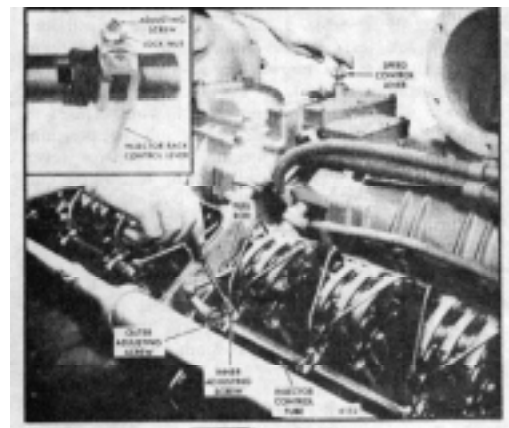

Fig. 12. Positioning No. 4L Injector Rack Control Lever
assemblies which have a yield spring at each injector rack control lever and one screw and locknut to keep each injector rack properly positioned (Fig. 12).
This adjustment lowers the tension of the low-speed spring so it can be easily compressed. This permits closing the low-speed gap without bending the fuel Fig. 12 - Positioning No. 4L Injector Rack Control Lever
7. Hold the speed control lever with light finger pressure (Fig. 12) and tighten the adjusting screw of the No. 4R injector rack control lever until the injector rack clevis is observed to roll up or an increase in effort to turn the screwdriver is noted. Tighten the screw approximately 1/8 of a turn more and lock securely with the adjusting screw locknut. This will place the No. 4R injector rack in the full-fuel position. Over tightening of the injector rack control lever adjusting screws during installation or adjustment can result in damage to the injector control tube. The recommended torque of the adjusting screws is 24-36 lb-in(3-4 N m).